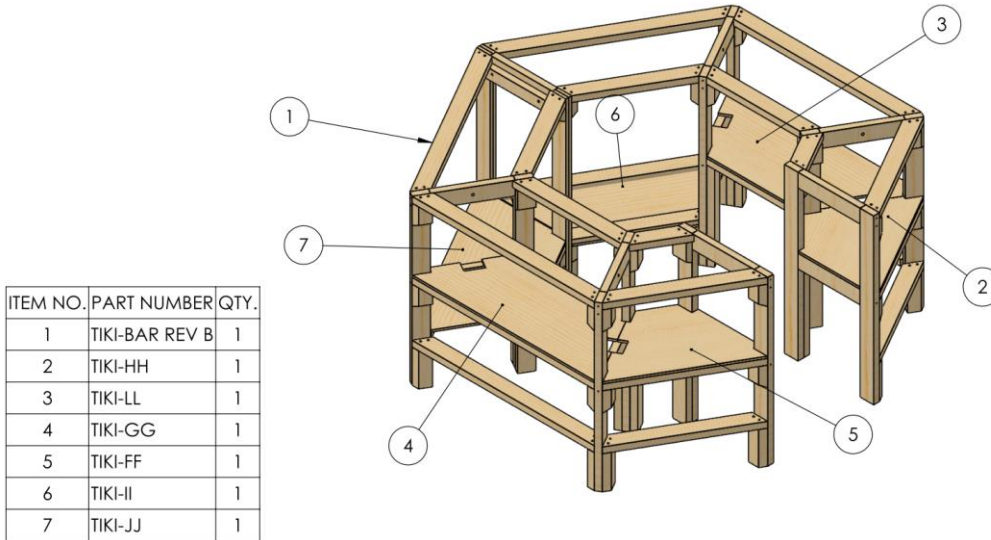

Figure 5
5) Place all shelves in place as shown in Figure 5. ***DO NOT screw these in place yet***